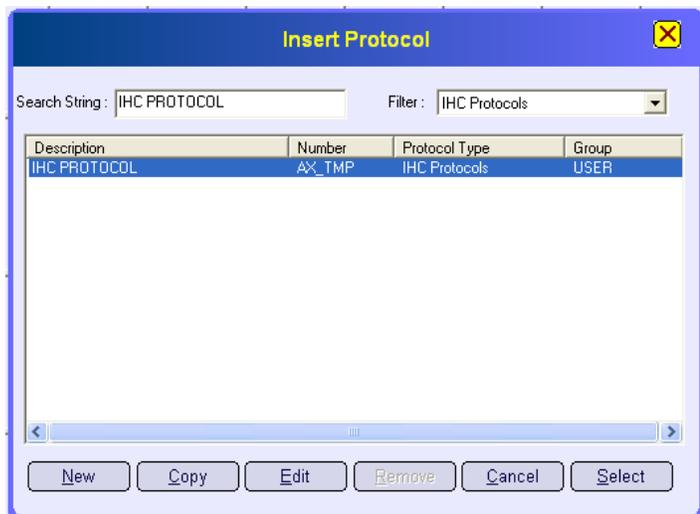

Figure 35: <Insert Protocol> <New> Window
1. From the <Insert Protocol> window (Figure 35), select the desired protocol to copy and select the <New> button to open the <New Protocol Editor> window (Figure 36). For instructions on using the <New Protocol Editor> windows, refer to **Section 7: Using Protocol/Slide Editor Window.**